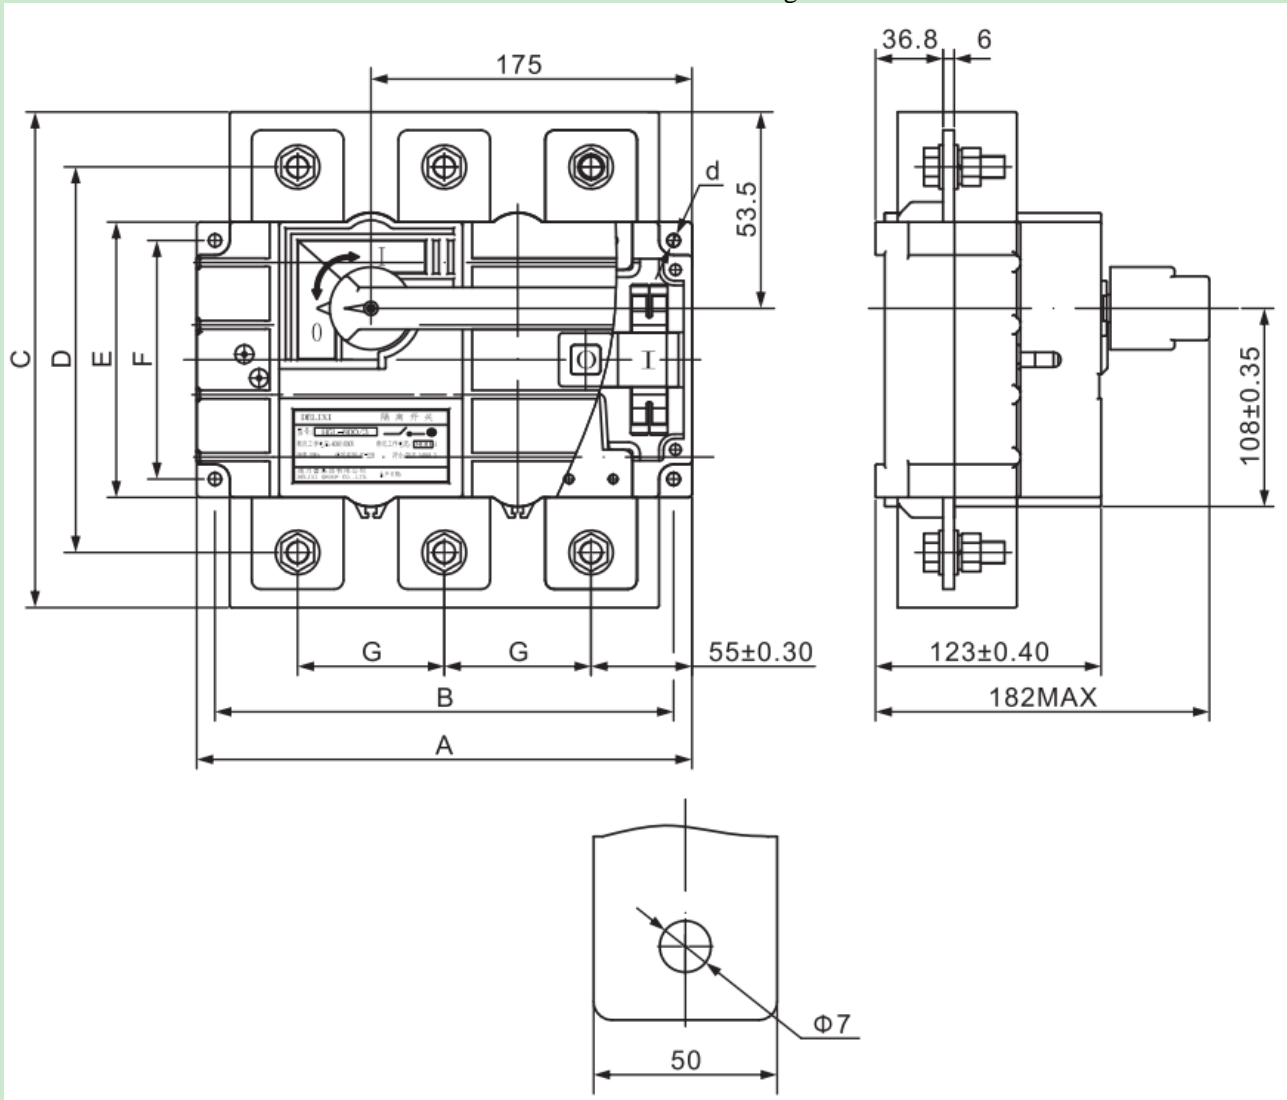

Fig. 11: HGL-800T/3, 4 series switch disconnector installation dimensions
6.7 The outline and installation dimensions of HGL-800T series switch disconnector and the outline and installation dimensions of the switch disconnector are illustrated in Fig. 11 and Table 4.